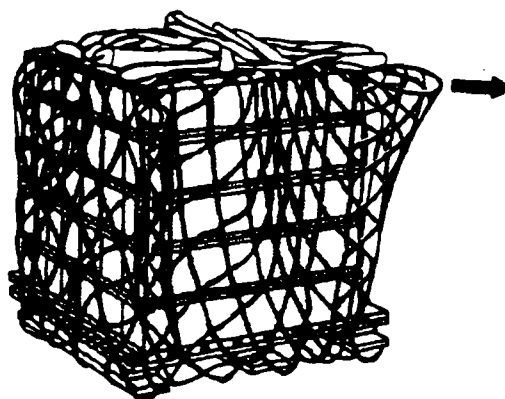

Figure 1-13. Excess Net Taped to Itself
Step 7 - After you finish taping the legs, pull the net outward at each corner, grasp the border cord from each side near the corner of the load, and tape the border cords together to tighten the sides of the net. Take the excess netting at the corner and tape to the adjoining side. At each side, pull the net up as high as possible and tape it to prevent it from snagging on the load and tearing the net (Figure 1-13). Use only enough tape to hold the net in place on the load. **DO NOT** tape net to load.